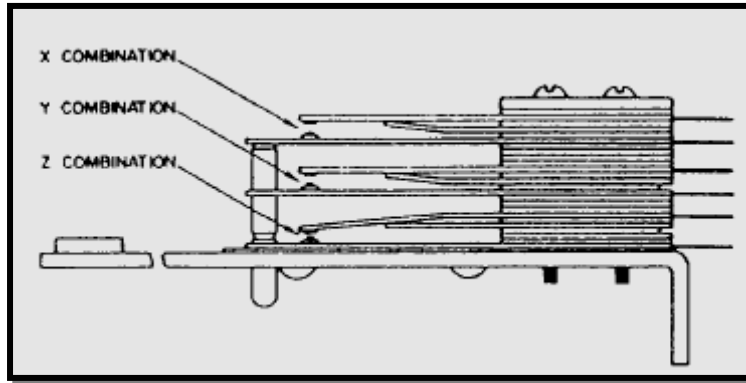

Figure 6-17.—Hookswitch assembly.
**Hookswitch Contact Springs.**— Figure 6-17 is an illustration of the hookswitch assembly. To adjust the hookswitch contact springs, bend the contact-spring stiffeners with a spring adjuster and measure the contact separations with a standard feeler gauge. With the hookswitch plunger fully operated on the hook, adjust the X and Z combinations for a contact separation of 0.025 to 0.035 inch and the Y contact combination for a contact separation of 0.045 to 0.055 inch.